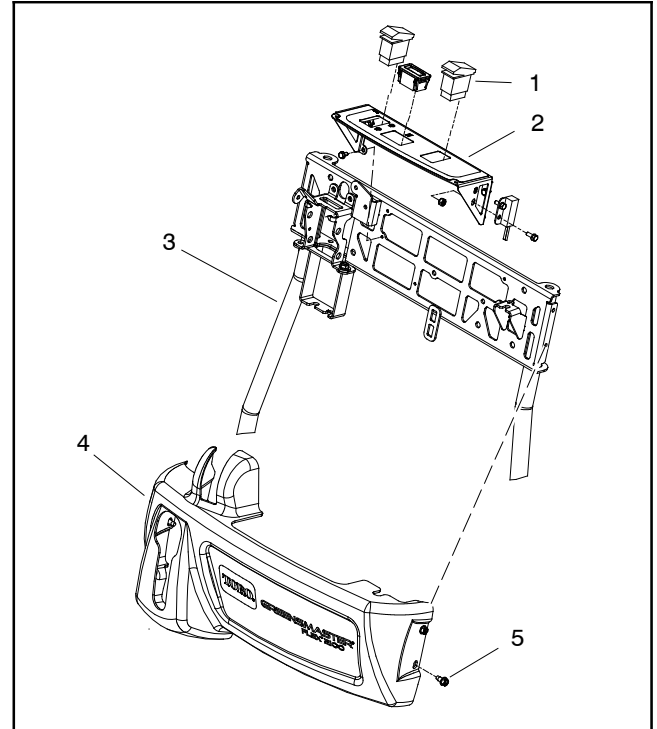

Figure 7
2. Remove console cover from handle to allow access to light switch (Fig. 7).